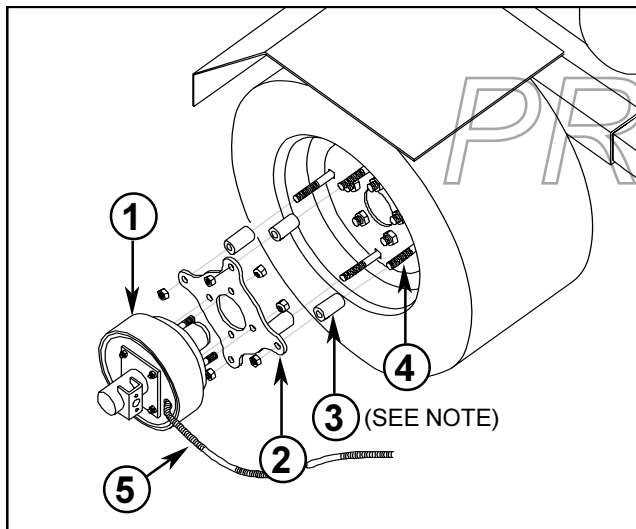

FIG. 5
1. Assemble the Adapter Plates onto the Brake Assembly Hubs with (4) 1/2" UNF wheel nuts as per FIG. 5. Torque nuts to 90 ft. lbs. (120 N-m).